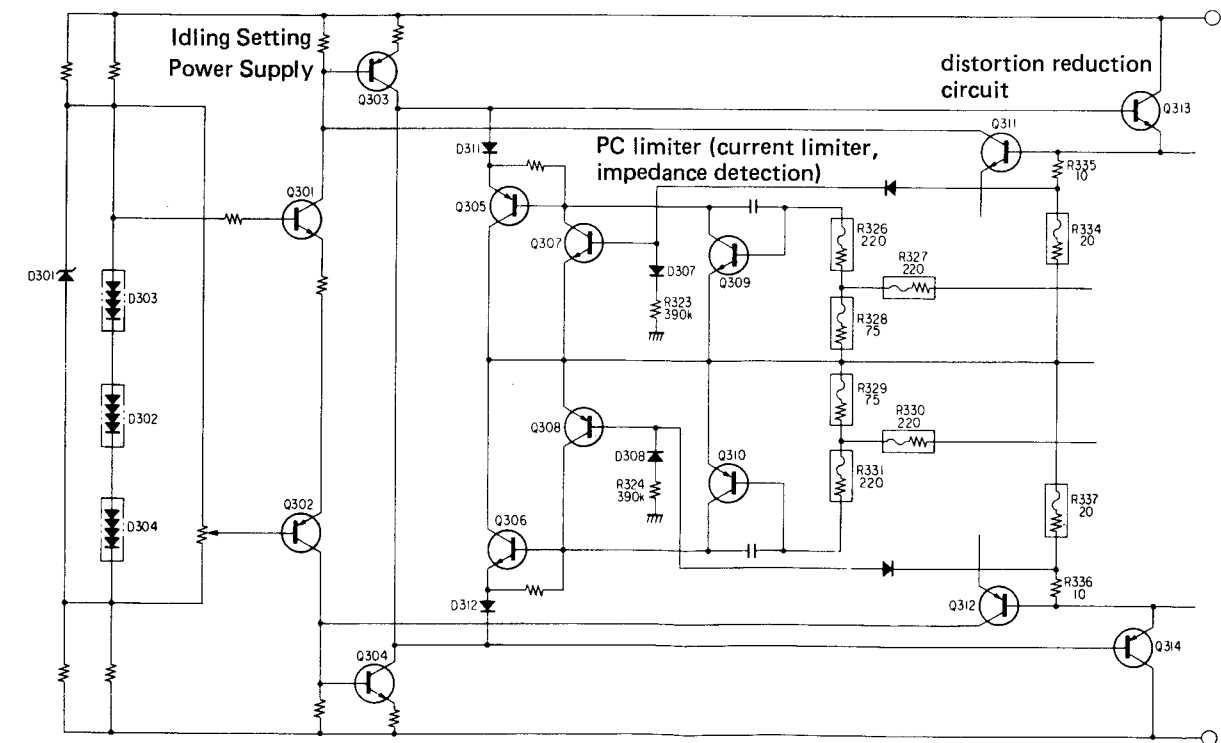

Figure 5
2. Driver Stage (Refer to Figure 5)